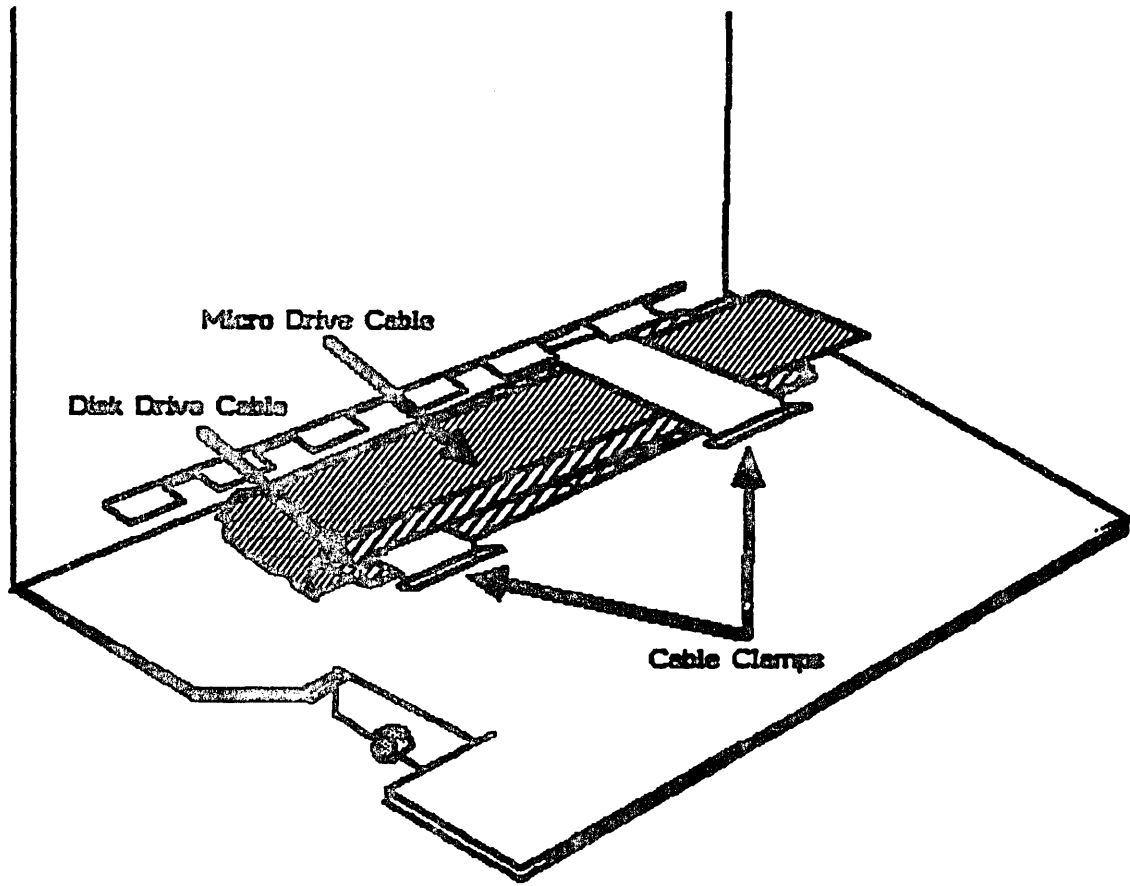

FIGURE 7
1. Make sure that the disk drive (ribbon) cables are routed through both cable clamps as shown in Figure 7.